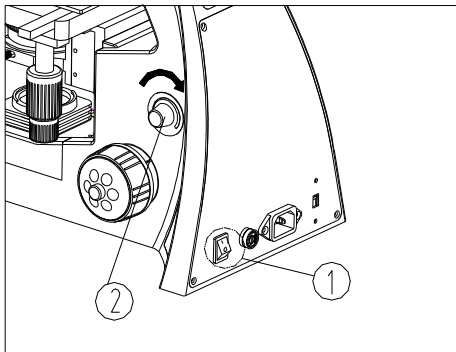

Fig.16
3.2.1 Brightness Adjustment (Fig.16)